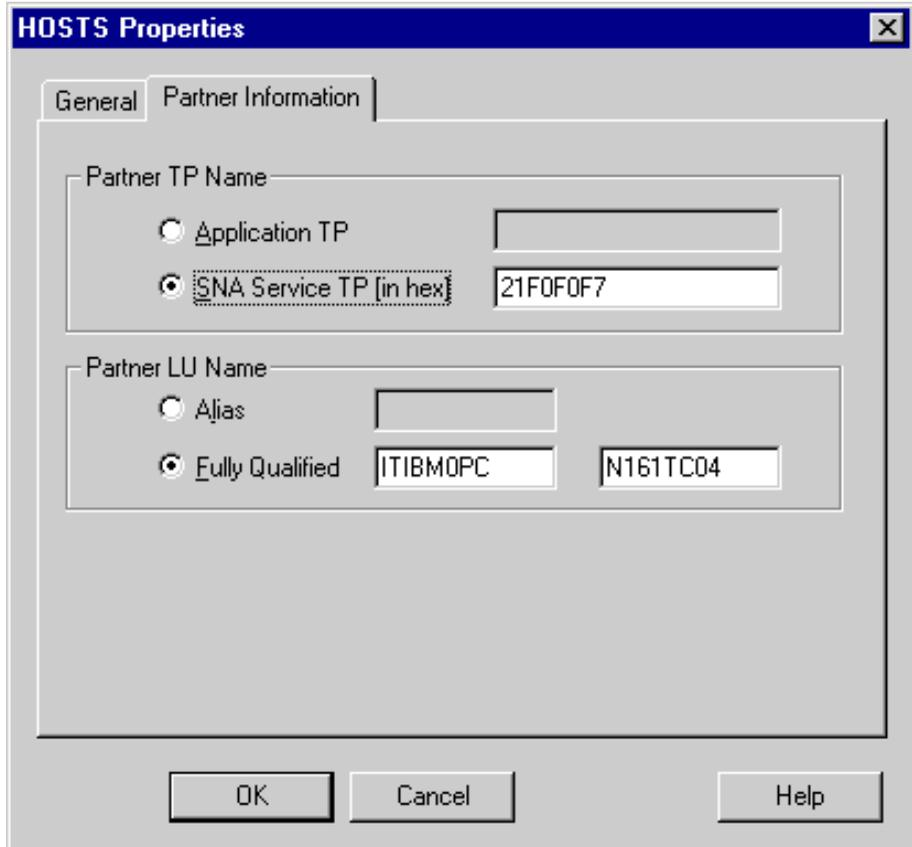

Figure 63. Configuring CPIC properties: partner information for HOSTS
- 12 On the Partner Information page, enter the same values that are shown in Figure 63.